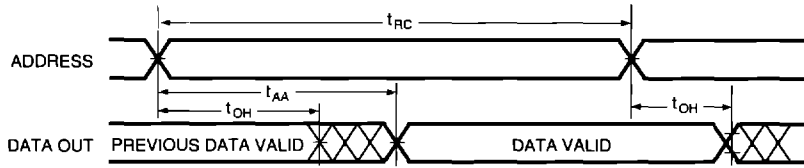

**Figure 1**
1. Transition is measured  $\pm 500\text{mV}$  from low or high impedance voltage with load (Figures 1, 2 & 3)
Output Load	See Figures 1, 2, and 3